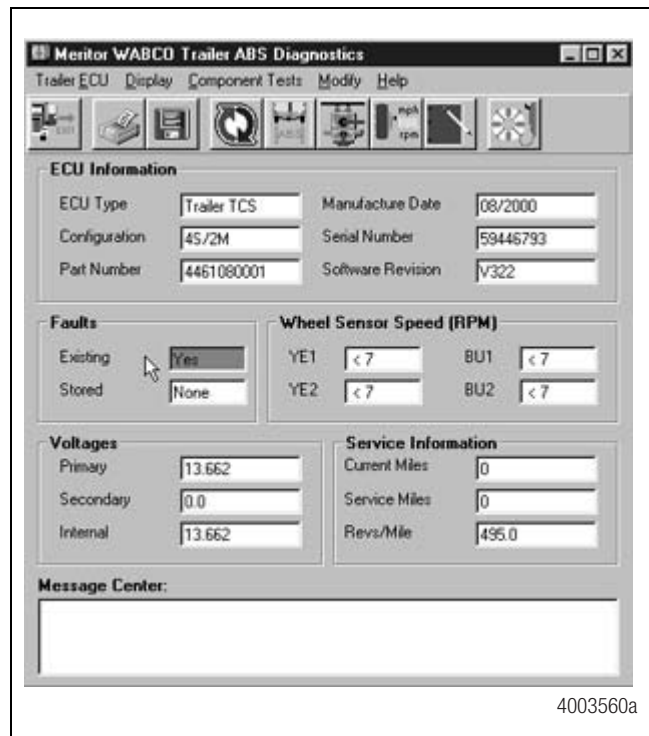

Figure 26
- Apply 12 volts DC to the blue wire (constant). Check the screen for the correct voltage (9.4 to 14 volts). Constant power voltage is displayed in the PRIMARY field. Figure 26.